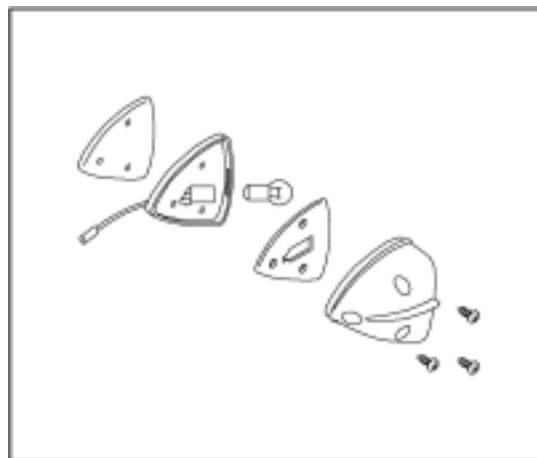

Figure 5—Marker and Clearance Lights
1. Remove three screws from marker lights. **Figure 5—Marker and Warning Lights.**
7. Install marker lights. **Figure 5—Marker and Warning Lights.**